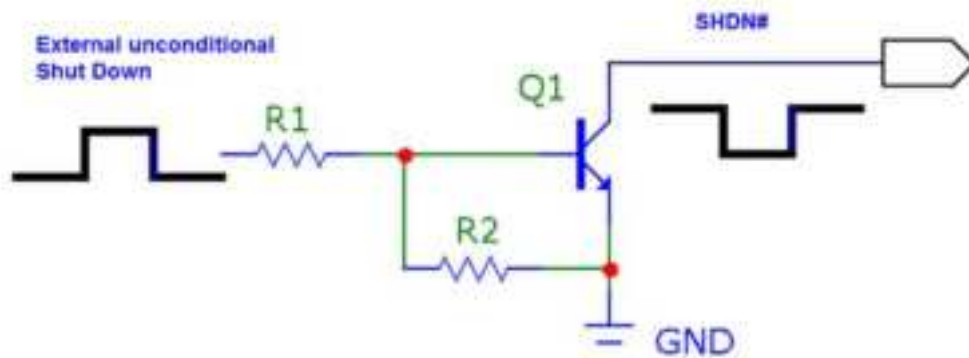

Figure 10: Circuit for Unconditional Hardware Shutdown
- Figure 10 shows a simple circuit for applying an unconditional shutdown.